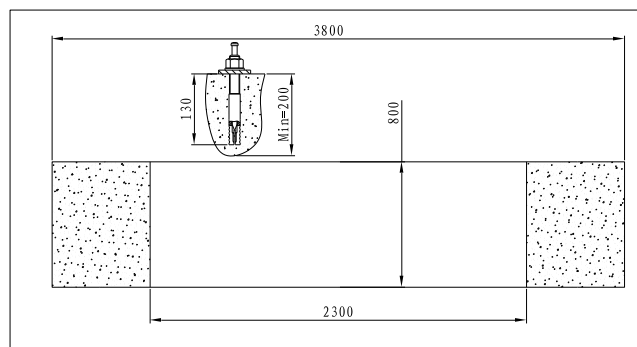

Fig. 30
- ◆ Put up the main column (**Notice that the carriage engages in the ratchet and keep in the same height**). Adjust the uprightness of the column and install the expansion bolt according to **Fig. 30**.
- ◆ Install the screw according to **Fig. 30**.